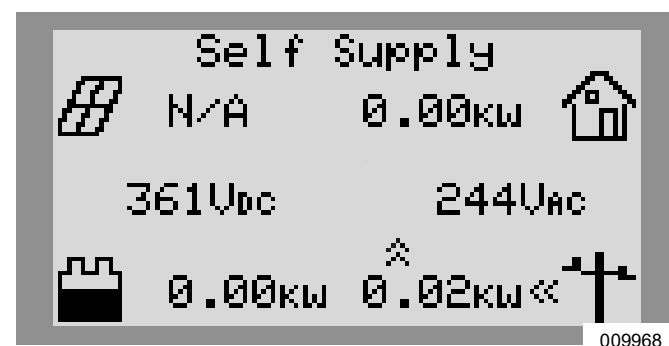

Figure 6-6. Selecting System Modes (4 of 4)
- See Figure 6-6. Verify the mode listed at the top of the home screen is the desired mode.